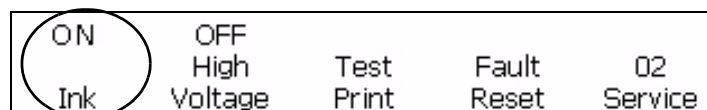

Figure 4-51: On Ink
- 4 Perform a Quick Start. See Figure 4-51 (01 Edit > 02 Edit > 03 Edit > 04 Edit - Service Printer > 01 Service > 02 Service).